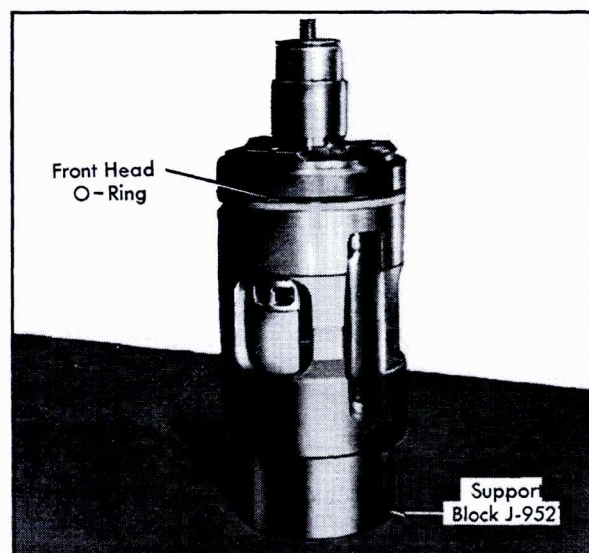

Fig. 1-75 Front Head O-Ring Installed
8. Generously lubricate angled groove at lower edge of front head casting with 525 viscosity refrigeration oil and install new O-ring in groove, Fig. 1-75.